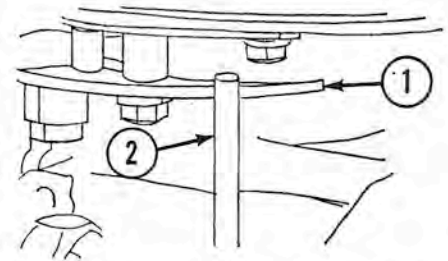

Fig. M3—Schematic view of speed control linkage, Refer to text for details of adjustment.
control grip until the throttle cam (1—Fig. M3), attached to bottom of the magneto stator plate, is at the front centerline of the power head. Loosen the cam attaching screws and move the cam on stator plate until it contacts follower lever (2) and just starts to open the throttle valve.